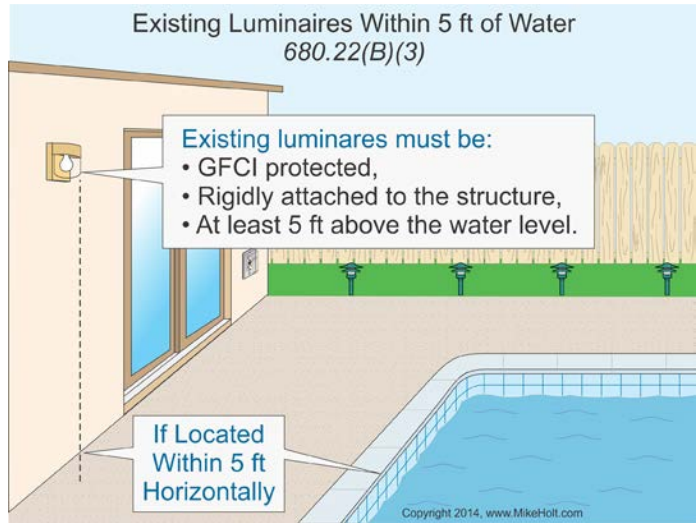
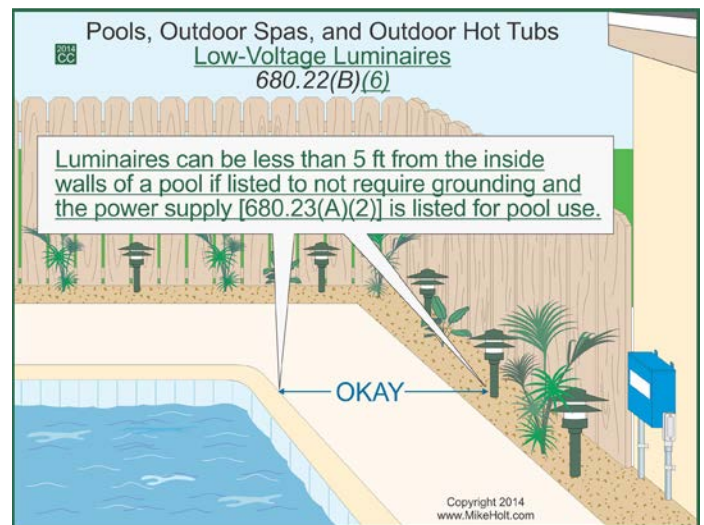

Figure 680-26
Figure 680-27
(1) New Outdoor Installations. Luminaires and ceiling fans installed above the water, or the area extending within 5 ft horizontally from the inside walls of a permanently installed pool, outdoor spa, or outdoor hot tub, must not be less than 12 ft above the maximum water level.
(3) Existing Installations. Existing luminaires located less than 5 ft horizontally from the inside walls of a permanently installed pool, outdoor spa, or outdoor hot tub must be not less than 5 ft above the surface of the maximum water level, must be rigidly attached to the existing structure, and must be GFCI protected. *Figure 680-26*
(4) Adjacent Areas. New luminaires installed between 5 ft and 10 ft horizontally from the inside walls of a permanently installed pool, outdoor spa, or outdoor hot tub must be GFCI protected, unless installed not less than 5 ft above the maximum water level and rigidly attached to the existing structure adjacent to or enclosing the permanently installed pool, outdoor spa, or outdoor hot tub.
(6) Low-Voltage Luminaires. Listed luminaires that don't require grounding, and that meet the low-voltage contact limit, can be less than 5 ft from the inside walls of the pool. *Figure 680-27*